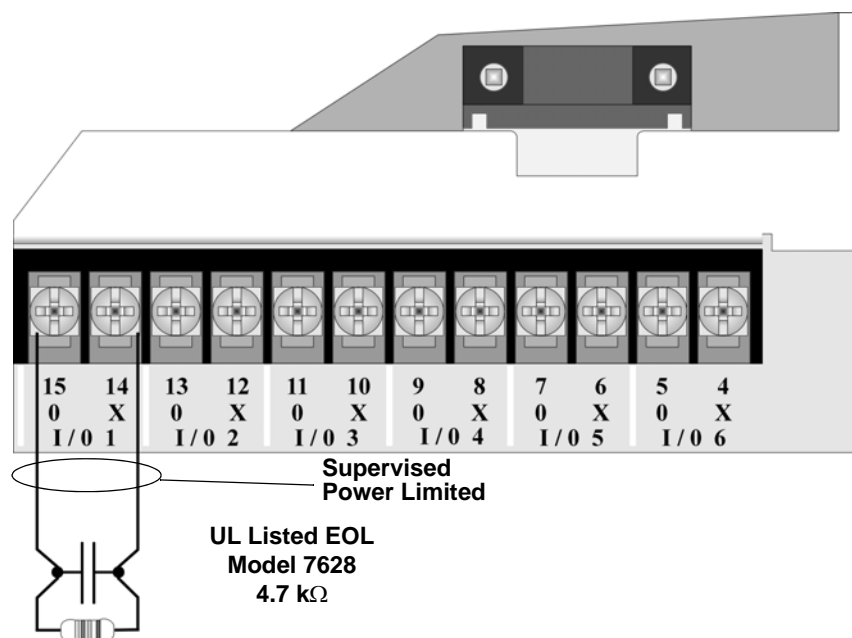

Figure 4-32 Class B Input Switches
1. Wire the Class B switch as shown in Figure 4-32.